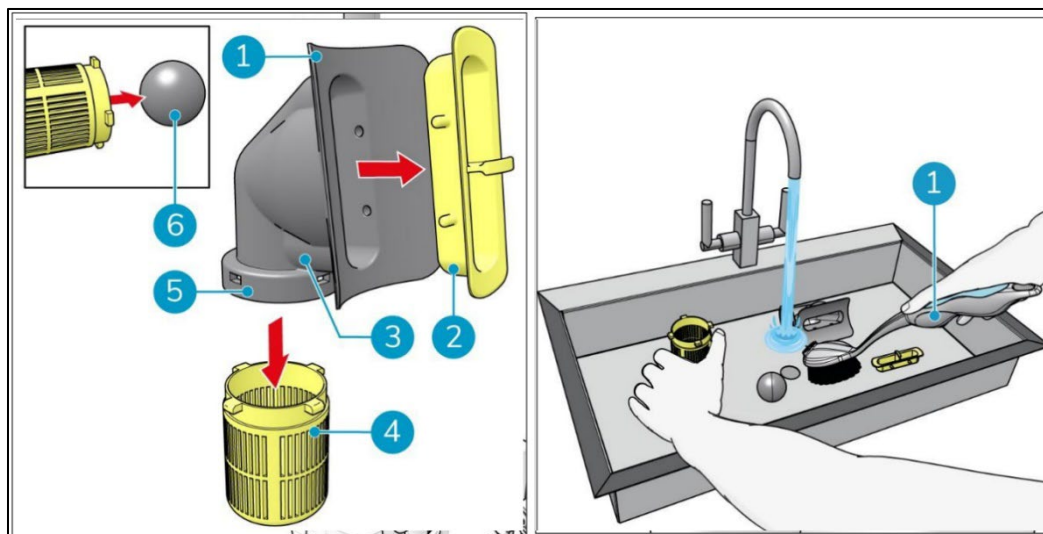

Figure 28
7. Rinse the parts with tap water. If required, clean with a brush (Figure 28, pos 1).